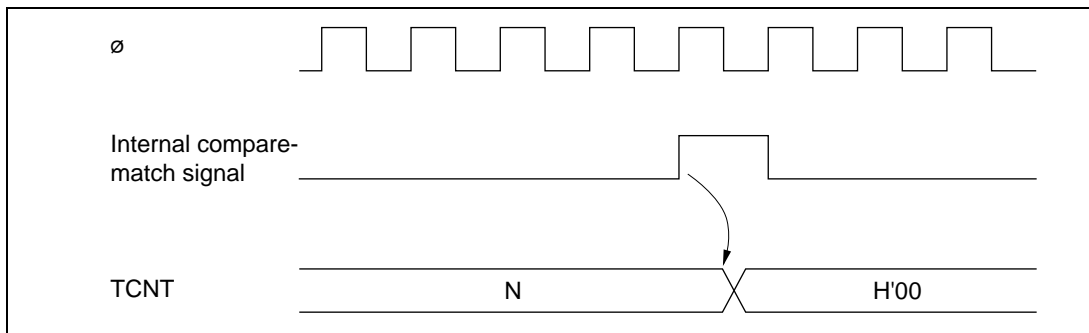

Figure 9-6 Timing of Compare-Match Clear
- 3. Timing of Compare-Match Clear:** Depending on the CCLR1 and CCLR0 bits in TCR, the timer counter can be cleared when compare-match A or B occurs. Figure 9-6 shows the timing of this operation.